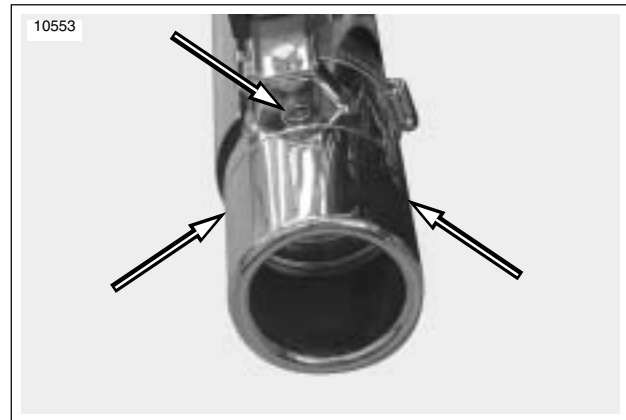

Figure 2-37. Muffler End Cap Fastener Locations
1. See Figure 2-37. Loosen and remove three fasteners holding muffler end cap in place. Remove end cap.